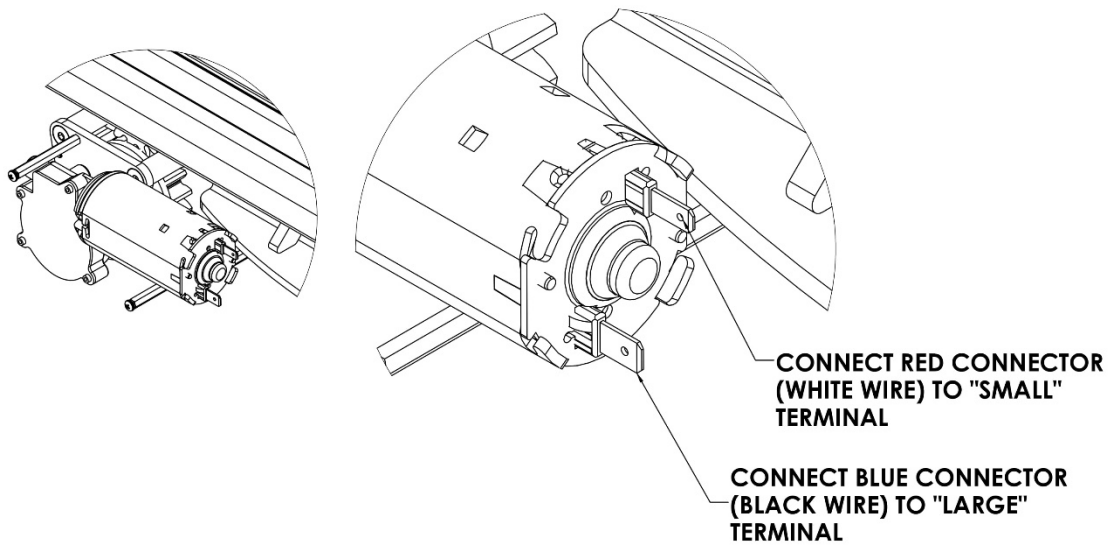

Figure 65: **Long Wire Ceiling Lift Connections**
12. Connect the other end of the long wire to the gantry motor (Figure 65.):